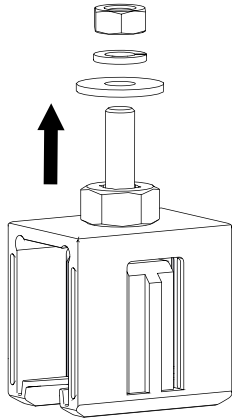

Fig. 56: Loosen the screw connection from the hanger clamp
- Loosen the screw connection with the hexagon nut and washers from the hanger clamp (see Fig. 56).